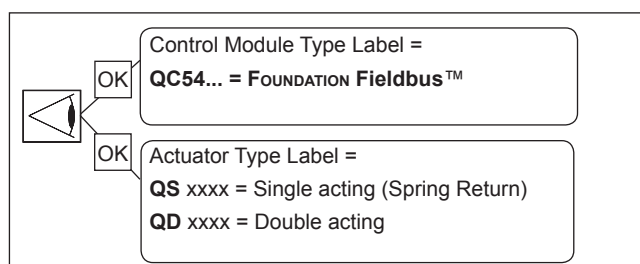

Fig. 2.2 Identification
- * Check the module label for the right execution (see fig. 2.2)
- * Check the type of actuator: single or double acting (see fig. 2.2)